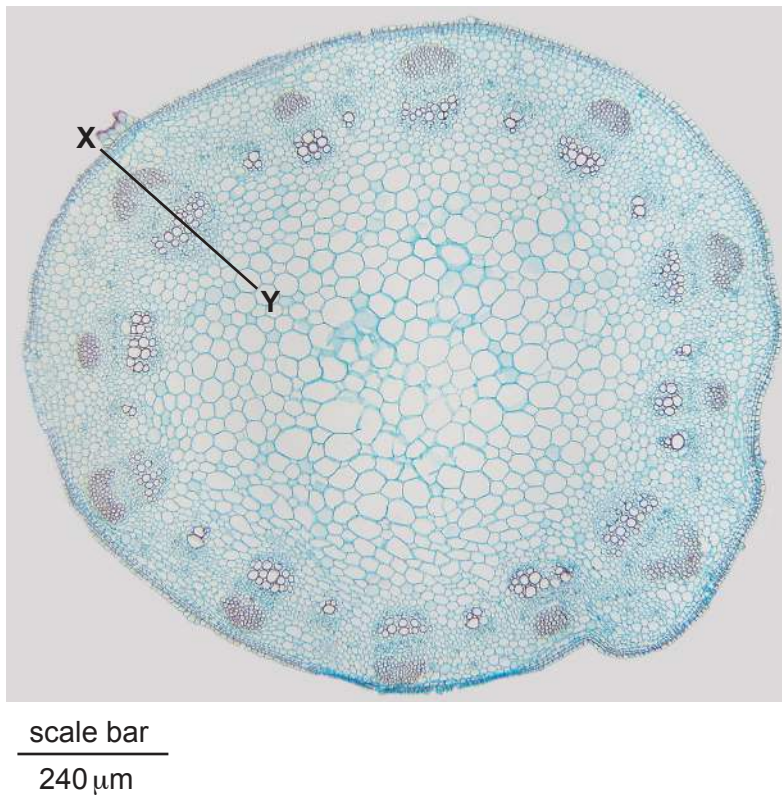

Fig. 2.2
(b) Fig. 2.2 is a photomicrograph of a stained transverse section of a different type of plant.
- (i) Use the scale bar and line **X–Y** on Fig. 2.2 to calculate the actual length of the vascular bundle.
(ii) Identify the organ shown in Fig. 2.2.
(iii) Identify the observable differences between the section on N1 and Fig. 2.2.